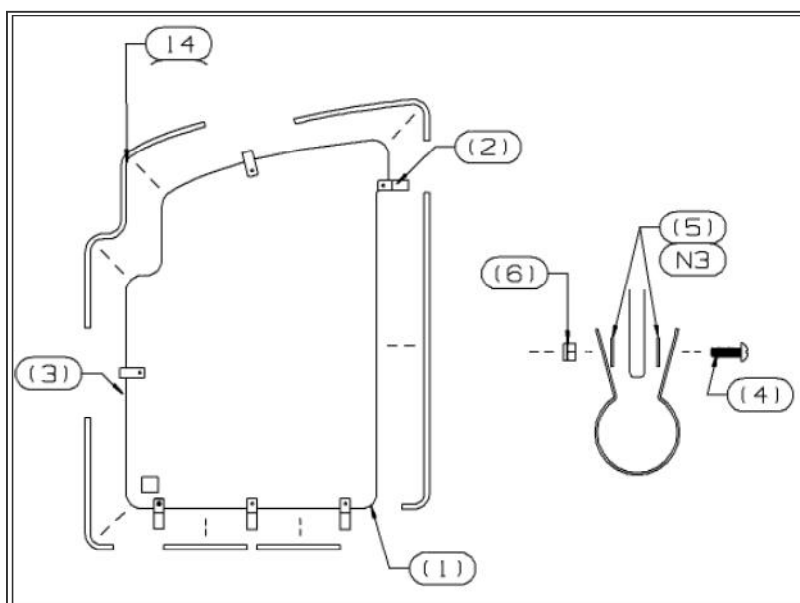

Figure 6: Lexan shield components
9. Install Lexan shield to the top of the stanchion using parts as shown in figure 6 below.